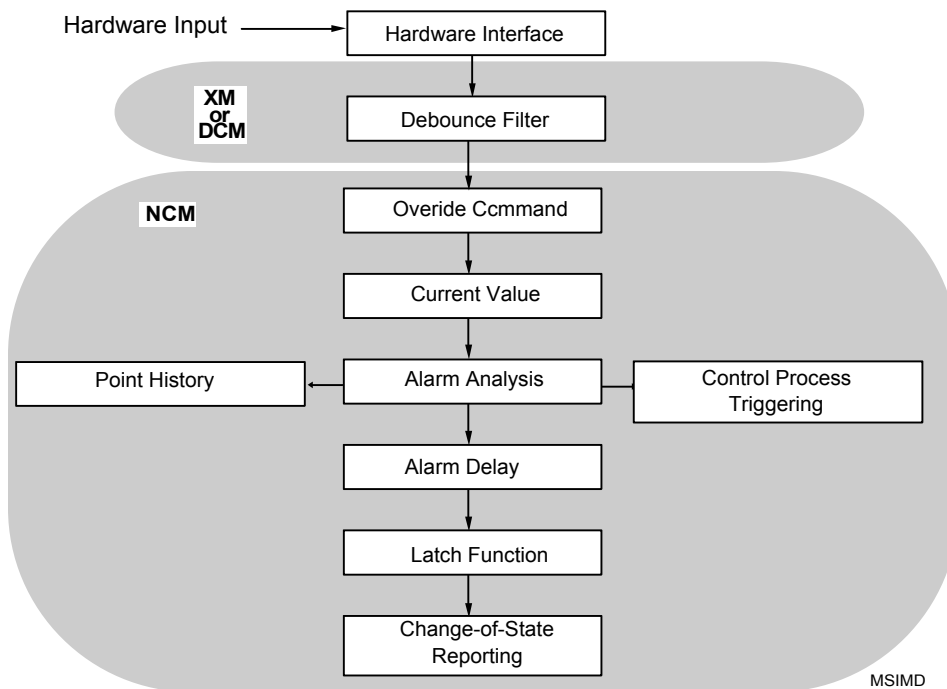

Figure 22: MSI General Model
**Details** Figure 22 shows a general model of how the MSI object operates. For more information, see the *Metasys European Technical Notes, Software Data Sheets, MSI Engineering*.